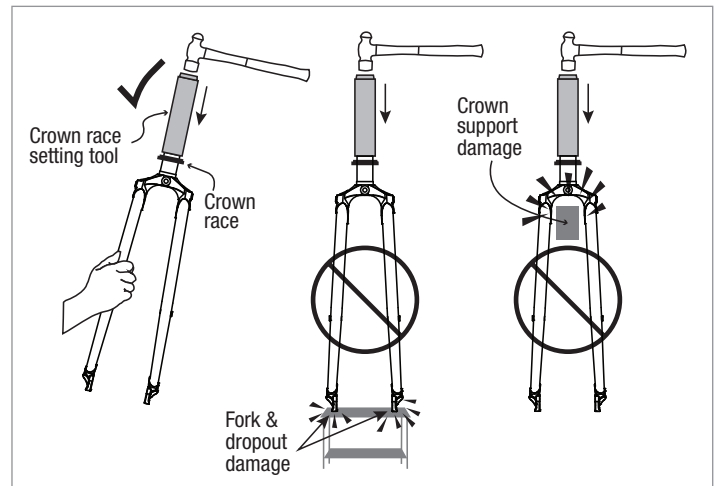
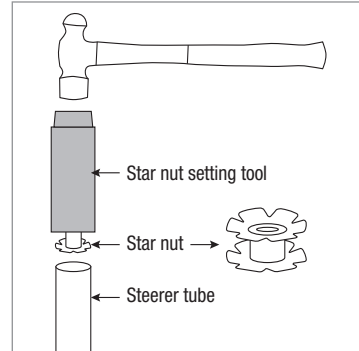

Figure 1
Figure 7
**▲ WARNING:** Do not place the fork on the dropout tips or support the fork in the crown area while installing the crown race. Doing so can damage the fork (Fig.1).
- A. Hold the fork with one hand (Fig. 1) and install a new star nut using a star nut setting tool and hammer (Fig. 7).